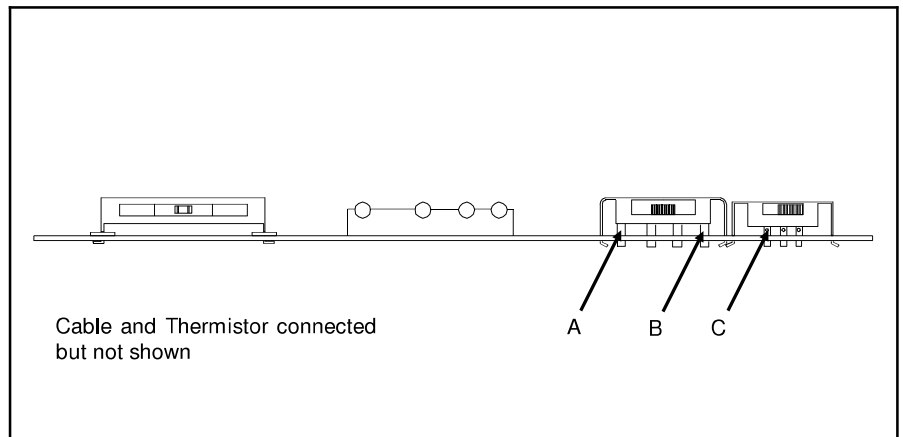

Figure 11.31 Control Voltage Check
19. With the volt-ohm-meter check the three points (A, B and C) indicated in Figure 11.31 for 12 volts DC. If you do not have 12 volts the cable is defective.
20. Set the Mode Selector to all modes of operation. The 12 volts as indicated in Figure 11.31 should go to zero. If they do not the Eyebrow board is defective.